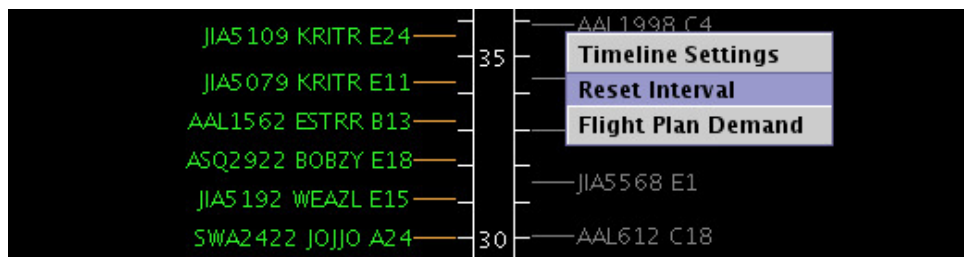

Figure 26. Right-click on the background of the Timeline to reset the Timeline interval.
**Step 2:** Select “Reset interval” (Figure 26). The Timeline now displays the default time interval.